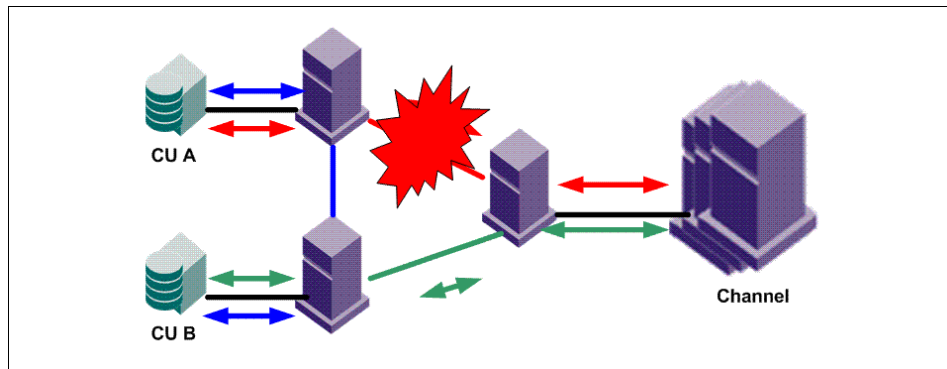

Figure 4-9 Link failure on TI Zone with failover disabled
The best way to illustrate this new change is with an example. As we can see in Figure 4-9, in the diagram we have a Channel Device that is a member of both the green and red zones with failover disabled. We also have two Control Units (CU), A and B, that are members of the two zones.